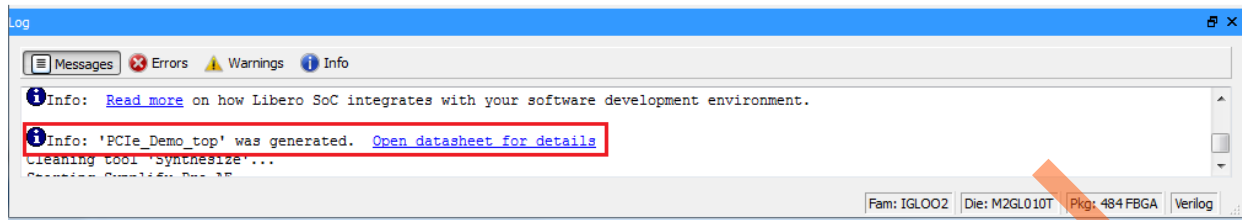

Figure 34 • Log Window
34. The message “PCIe_Demo_top' was generated” is displayed in the Libero SoC Log window if the design was generated without any errors. The Log window is displayed as shown in Figure 34 on successful component generation.